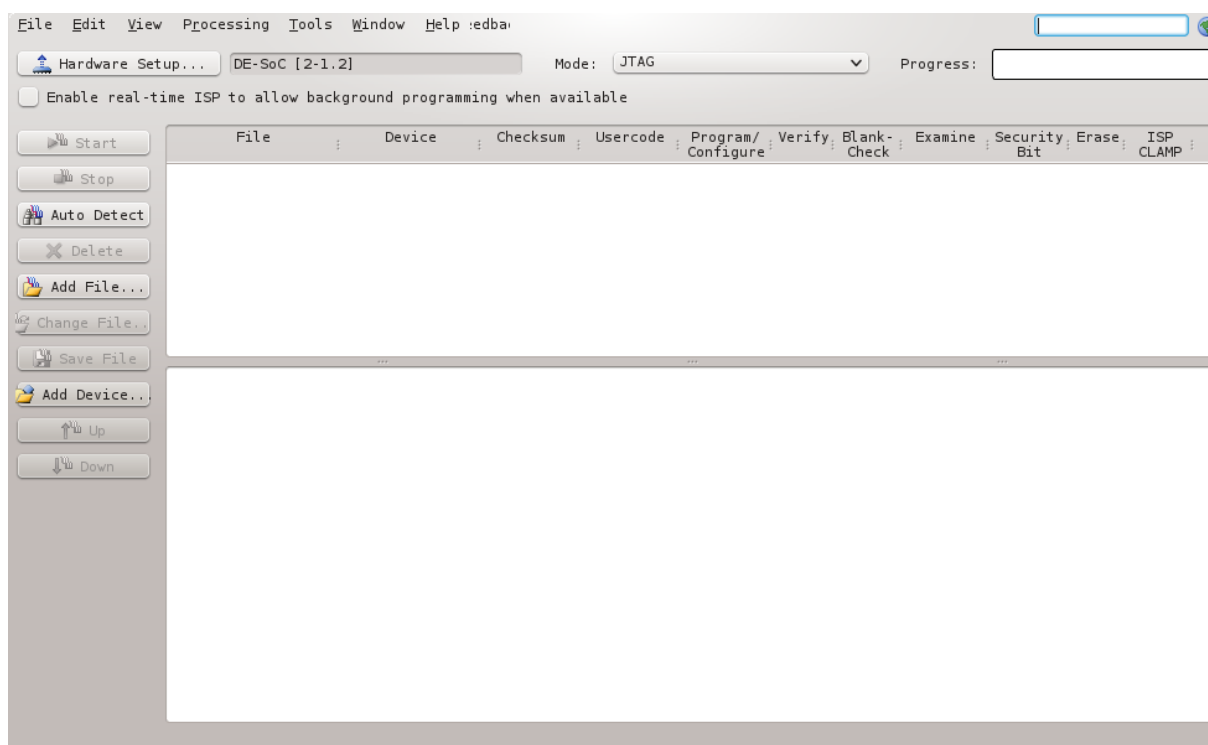

Figure 7-15. Quartus II Programmer
36. Choose the “Auto Detect” button on the left of Figure 7-15, then choose “5CSEMA5”, as shown in Figure 7-16.